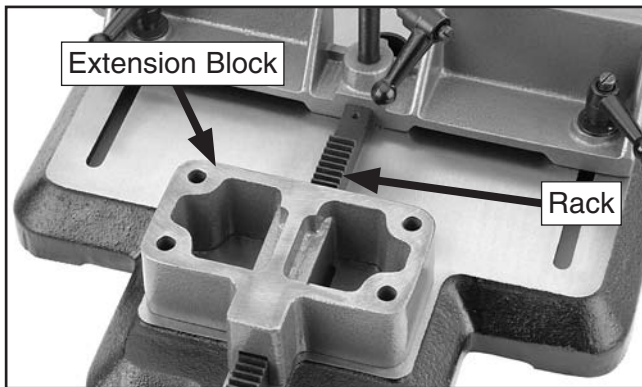

Figure 15. Extension block positioned on base.
7. Place the extension block over the rack and base, and align the mounting holes, as shown in **Figure 15**.